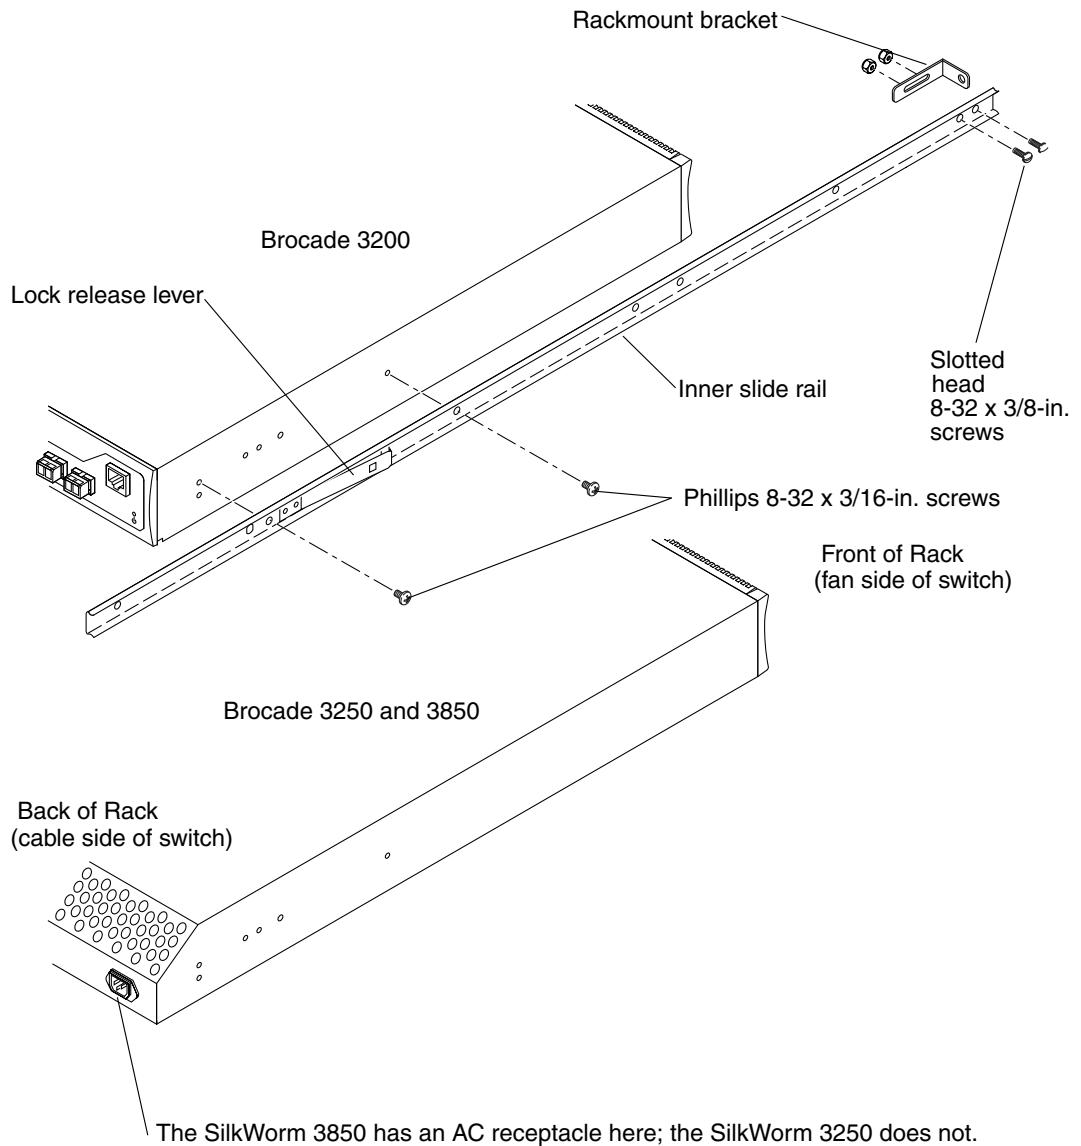

FIGURE 1-1 SilkWorm 3200, 3250, and 3850 Switch Inner Slide Rail Installation
- a. Position a rackmount bracket at the end of the inner slide rails (the end that does not contain the lock release lever), as shown in FIGURE 1-1.
To allow the fan side of the switch to slide out of the front of the rack, orient the rail as shown in FIGURE 1-1, with the end containing the lock release lever toward the cable side of the switch.
- b. Attach the rail to the SilkWorm 3200, 3250, or 3850 switch by using two of the Phillips 8-32 x 3/16-inch screws (see FIGURE 1-1).